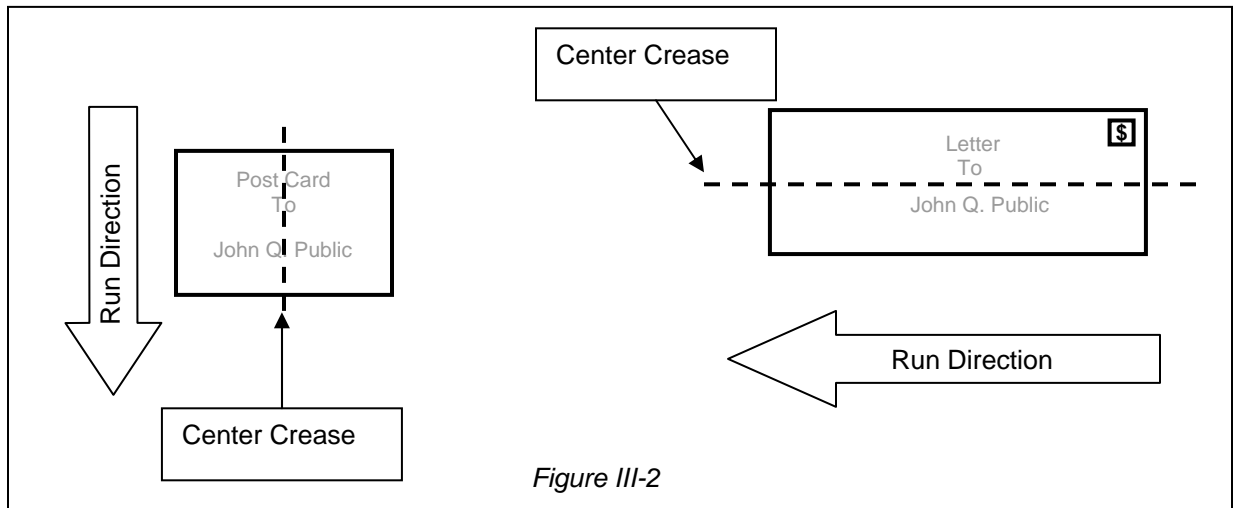

Figure III-2
3. Fold one (1) piece of material in half to establish a center crease. (Note: The crease needs to be made in the direction of travel that the material is to be run in, see figure III-2.)